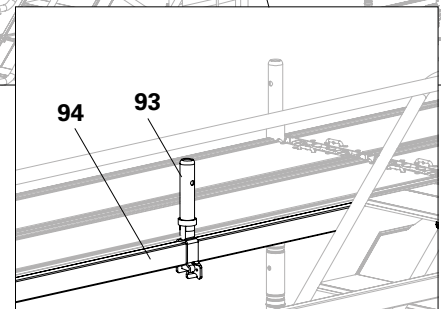

Fig. B8.11a
1. Prior to installing the deck on the top level of the basic scaffold, fit a Horizontal Ledger UH-2 (94) onto the outer side.
2. Attach the UH Spigot-2 (93) to the horizontal ledger so that the wedge can be secured from the outside. (Fig. B8.11a)
3. Fit a Standard UVR-2 100 (85) onto UH Spigot-2.
4. Screw two Clamping Rosettes UEV 90° (103) onto the outer leg (16.2) of the Easy frame.
5. Attach two Horizontal Ledgers UH-2 225 (95) to clamping rosettes (103) and standard (85) as a guardrail post and intermediate guardrail.
6. Align UH Spigot-2 (93) and secure the wedge.
7. Fit Toe Board UPY (57).
8. Fit two Horizontal Ledgers UH-2 67 (98) into the clamping rosettes (103) between the outer leg (16.2) and Easy standard (22).